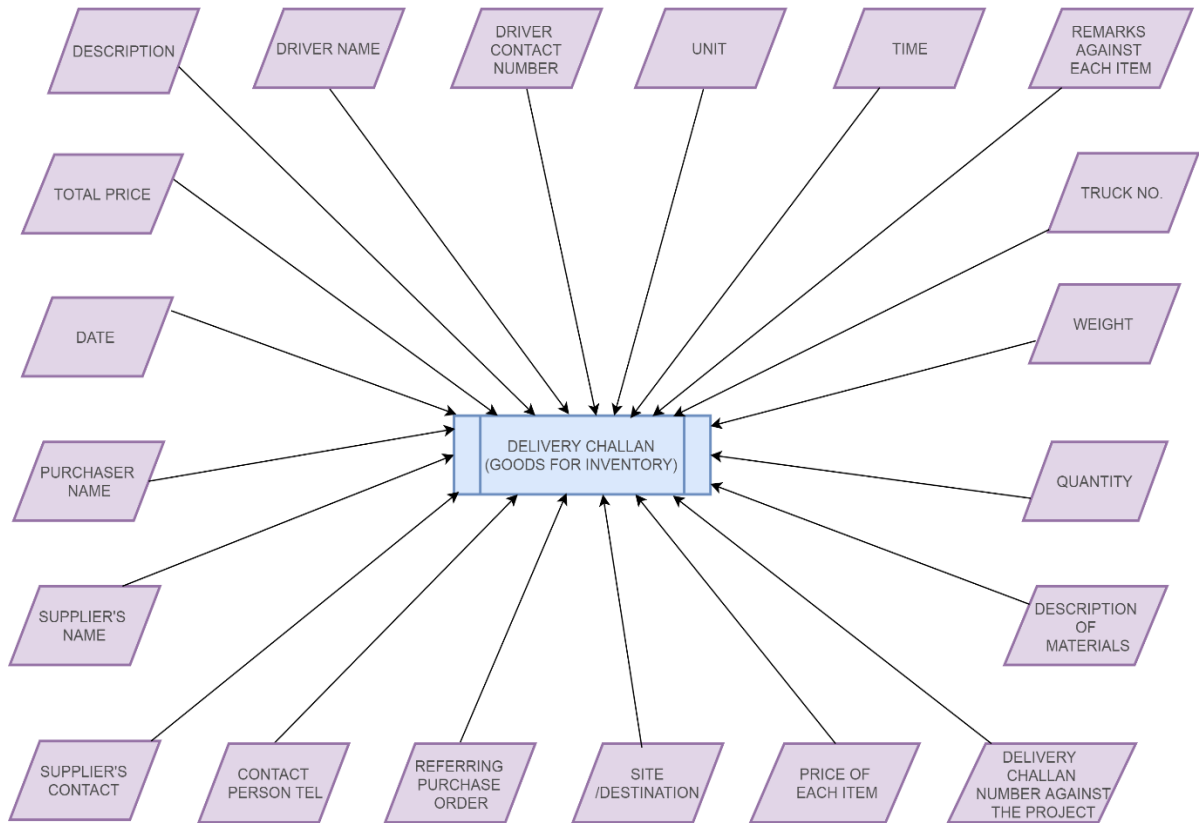

Figure 3.16
2. A Delivery Challan (*refer figures 3.16. 3.16 and 3.17*) is created by the Purchaser and is handed over to the Transporter.
3. The Central Store Manager will create Outward Gate Pass (*refer figure 4.0 & 4.1*) and a Delivery Challan (*refer figures 3.16 & 3.17*)
1. A Delivery Challan (*refer figures 3.16 and 3.17*) and an Outward Gate Pass (*refer figure 4.0 & 4.1*) is created by Project Manager and is handed over to Transporter.